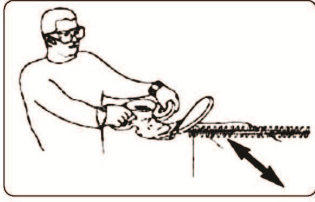

FIG. 38
**LEVEL HEDGES** - To obtain exceptionally level hedges, a piece of string can be stretched along the length of the hedge as a guide. (Fig. 38)